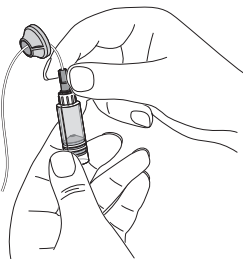

Figure 6
2. Thread the infusion set tubing through the cartridge cap; remove the protective cap from the luer end of the infusion set and insert the luer through the hole in the cap and firmly tighten it onto the tip of the cartridge (see Figure 6).